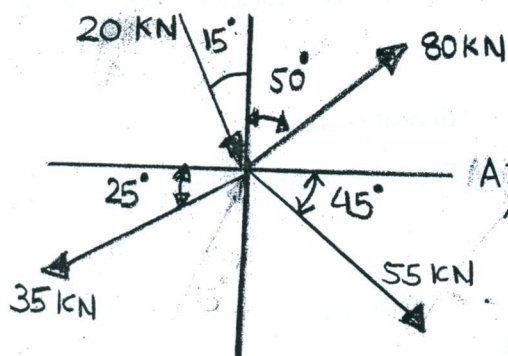

Fig. 5
Q.3 (A) Determine Magnitude, direction and location of resultant for a system of forces shown in Fig.5. 05